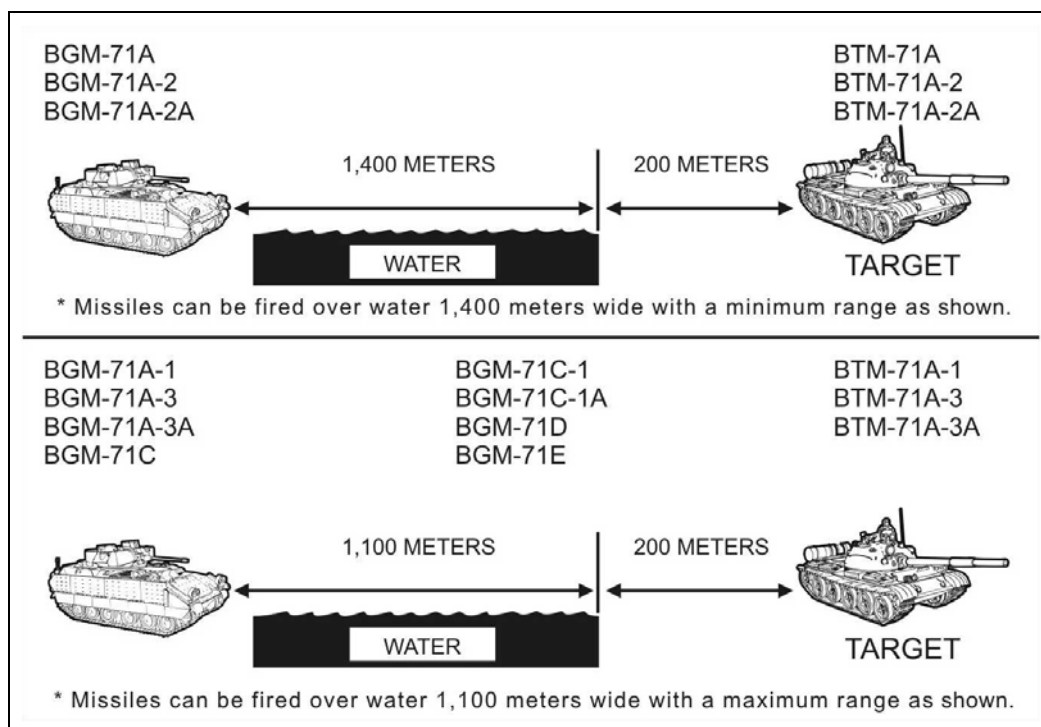

Figure 6-45. Minimum TOW missile ranges over water.
(1) The gunner can fire various types of TOWs at their minimum and maximum ranges over water (Figures 6-45 and 6-46, page 6-43). This assumes that both the TOW launcher and the target sit at water-surface level.